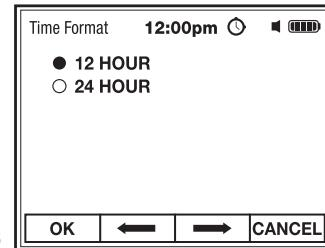

Fig. 28
- Use the **F2 ⇄** and **F3 ⇄** soft keys to select a 12 hour or 24 hour clock (Fig. 28).